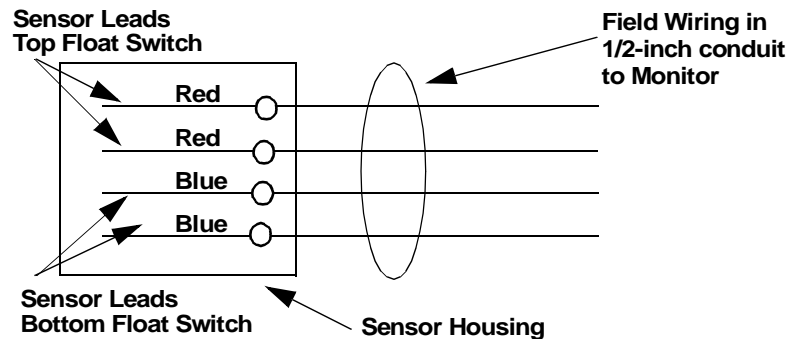

Figure 2. Field Wiring Diagram
3. Using the wire nuts provided with the sensor, connect the sensor wires to the field wires in the sensor junction box (see Figure 2).